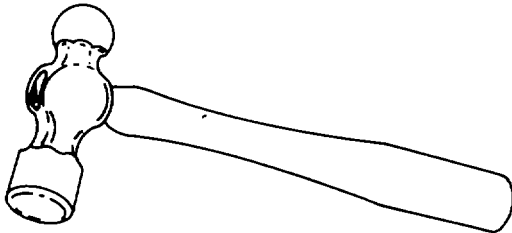

Figure 4-1. Ball Peen Hammer
(1) Ball peen hammer. The ball peen hammer is the type most often used by mechanics. It has a steel head and is usually available in 4-, 6-, 8-, and 12 ounces, and 1, 1 1/2-, and 2-pounds. As figure 4-1 shows, this hammer is identified by the ball-shaped peen at the opposite end of the face.